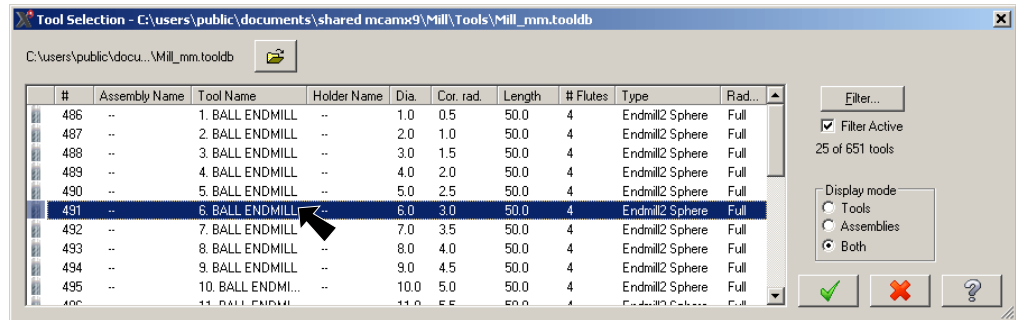

Fig. 15
Step 16. Click **491 BALL END-MILL 6mm** and click **OK**, **Fig. 15.**